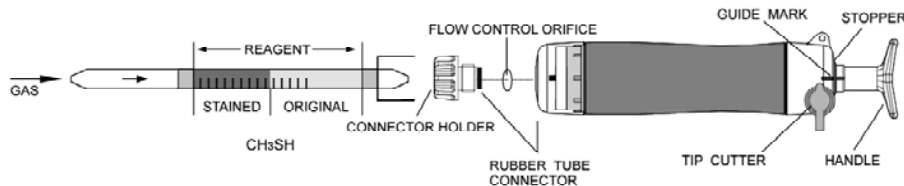

Fig.1
- ① Break both ends of detector tube.
- ② Insert the detector tube into aspirating pump securely as shown in Fig.1. (Arrow mark shall point to the pump.)
- ③ Align the guide marks on the shaft and stopper of the aspirating pump.
- ④ Pull the pump handle at full stroke until it locks and wait for 3 minutes or until the completion of sampling is confirmed with the flow indicator of the pump (See descriptions about the flow indicator in the instructions of the pump).
- ⑤ On completion of sampling, read the scale at the maximum point of the stained layer.